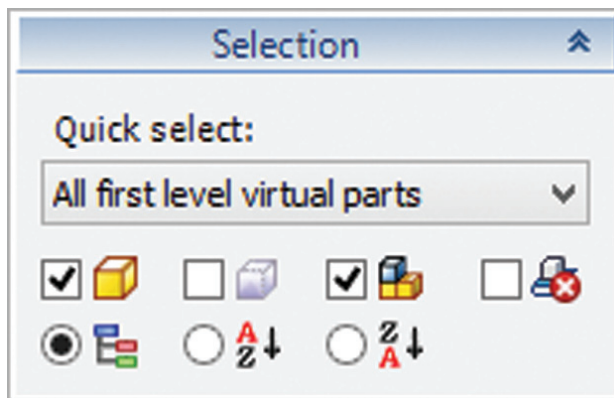

Figure 12: New view types and document type filters
- New View Types are shown in Figure 12. You can now view the referenced documents in either a flat or sorted view. Of course, you can still use the hierarchical view.
- New Document type filters, including virtual components (see Figure 12).